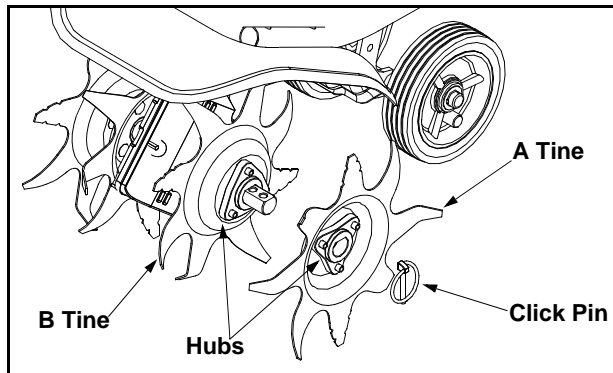

Figure 16
- Push the On/Off switch to Off (O) position to stop engine and tines and disconnect spark plug to avoid accidental starting.
- Slide new tines on with hubs facing out. The four tines are marked with letters A and B. Place one A and one B tine on the tine shaft. See Figure 16.